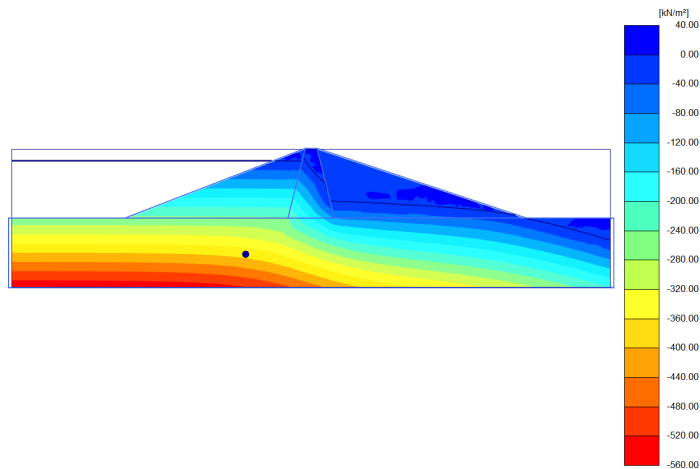

Figure 6.10 Pore water pressure distribution for high reservoir level (Initial phase)
The results of the four groundwater flow calculations in terms of pore pressure distribution are shown in Figures 6.10 to 6.13. Four different situations were considered:
- The situation with a high (standard) reservoir level (Figure 6.10).